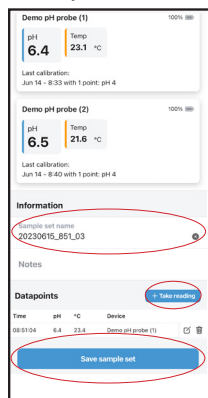
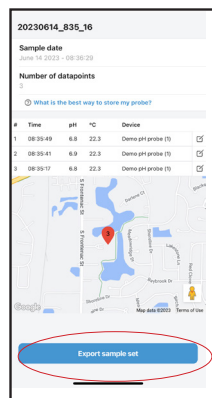
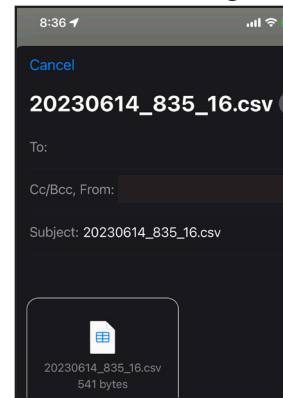

Figure 5
Figure 6
Figure 7
- The Sample Set can be renamed by clicking the X and type the desired name (Figure 5)
- Select **+Take Reading** to take additional measurements to be included in the same Sample Set (Figure 5)
- Select **Save Sample Set** - the screen will show the sample date, number of data points, measurement values and geo-referenced location of the samples taken (Figure 5/Figure 6)
- Select **Export Sample Set** to export data into a .csv file that can be saved or emailed (Figure 6/Figure 7)